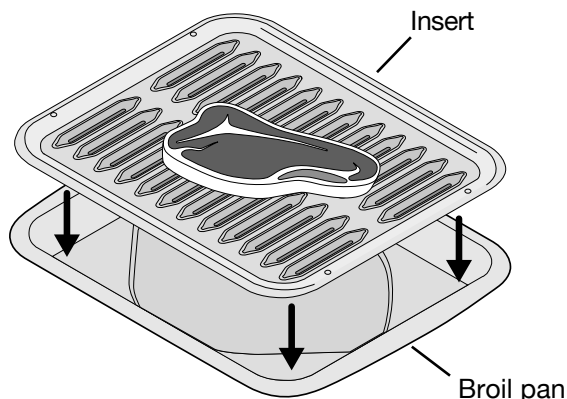

Fig. 1
- Use the recommended pans and oven rack positions for the type of meat being prepared- *p.23 Figs. 1, 2 & 3-*.
The broil pan insert (if equipped) contains slots that allows grease from the meat to drain into the broil pan. Place prepared meat on broil pan insert and then place onto broiler pan as shown-*Fig. 1*.